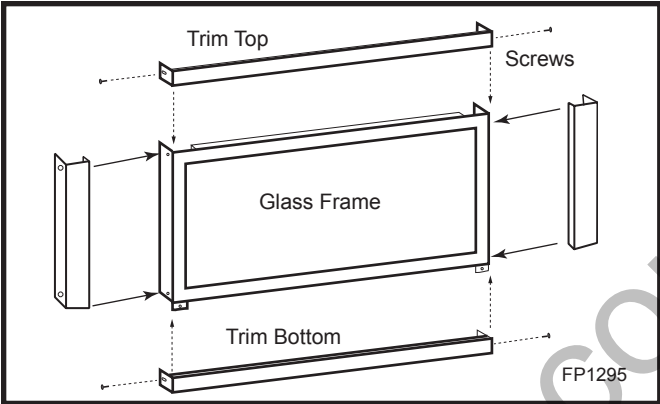

Fig. 45 Install support window trim channel and top and bottom brass trim.
- 2. Install support window trim channel, top and bottom brass trim by using the shortest black screw. (Fig. 45 & 46)